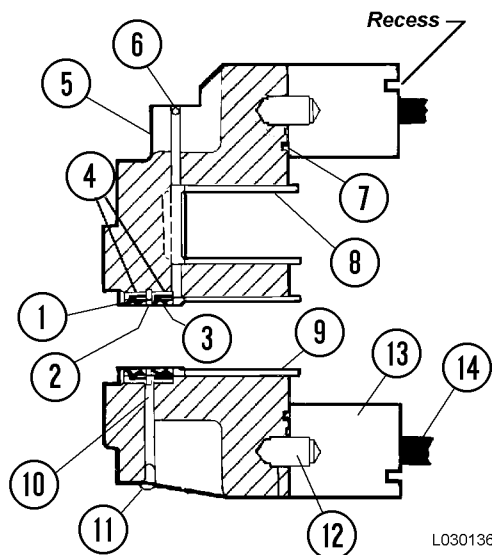
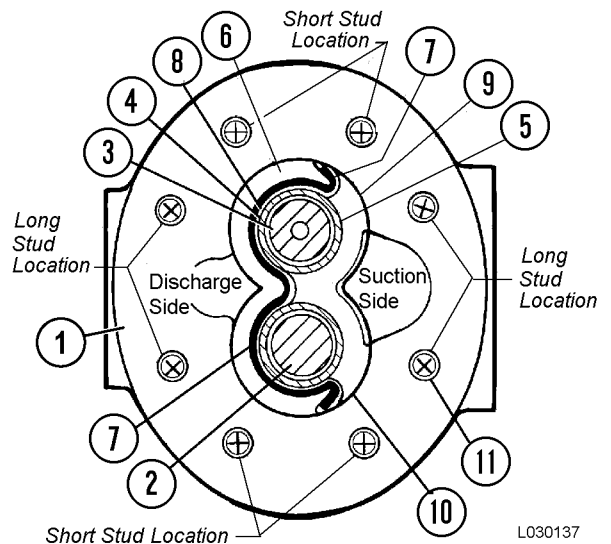

FIGURE 3-11. SHAFT SEAL INSTALLATION
FIGURE 3-12. PUMP REASSEMBLY
3. Lubricate the seals with hydraulic oil. Position inboard shaft seal (3, Figure 3-11) with the metal face toward the outboard end of the flange.
5. Install snap ring (2, Figure 3-11) with the snap ring opening over weep hole (10).
7. Lubricate thru stud threads (14, Figure 3-11) with hydraulic oil. Thread the studs into flange until snug. There are four long studs and four short studs. Refe to Figure 3-12 for proper stud location.
8. Lubricate and install O-ring (7). Install dowel pins (12) if removed. Install gear plate (13). Make sure that the recess in the gear plate will be toward the connector plate or facing up when the gear plate is installed.
9. Install steel rings (5, Figure 3-12). Lubricate and install backup ring (8), O-ring (7) and ring retainer (6) as shown in Figure 3-12.
10. Install isolation plate (9) on the suction side of the gear plate. The isolation plate has a relief area milled on one side. Turn that side up or toward the pressure plate.